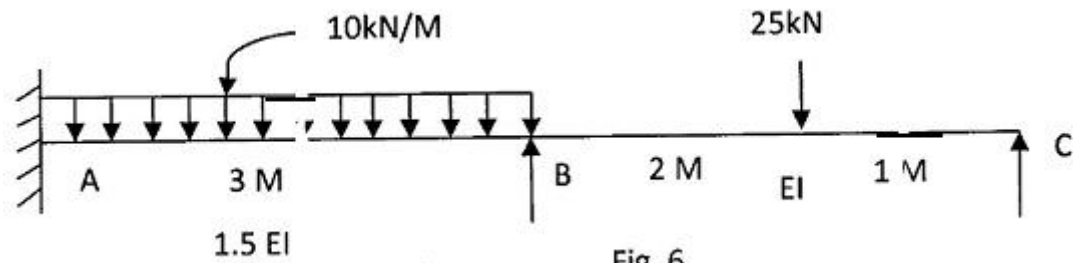

Fig .6
- 17 Analyze the following continuous beam shown in Fig. 6 by either flexibility or stiffness method if the support 'B' sinks down by 10mm. Take $E = 200 \text{ GPa}$ and $I = 1.35 \times 10^{-3} \text{ m}^4$. Also draw BMD.